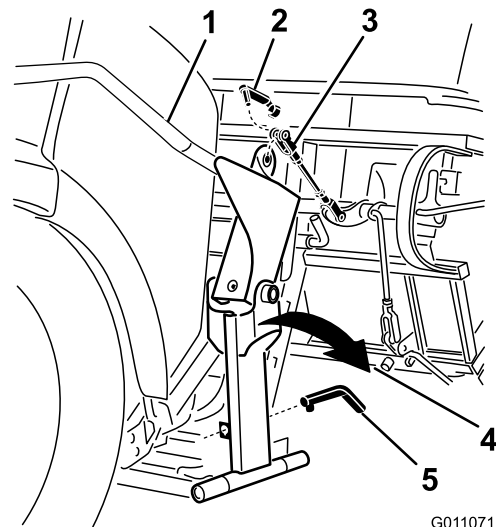

Figure 34
3. Remove the clevis pin spring connecting the yoke to the handle (Figure 34).
4. Remove the pin out of the key hole that is holding the handle in position (Figure 34).
5. Rotate the handle out to allow access to the hood (Figure 34).